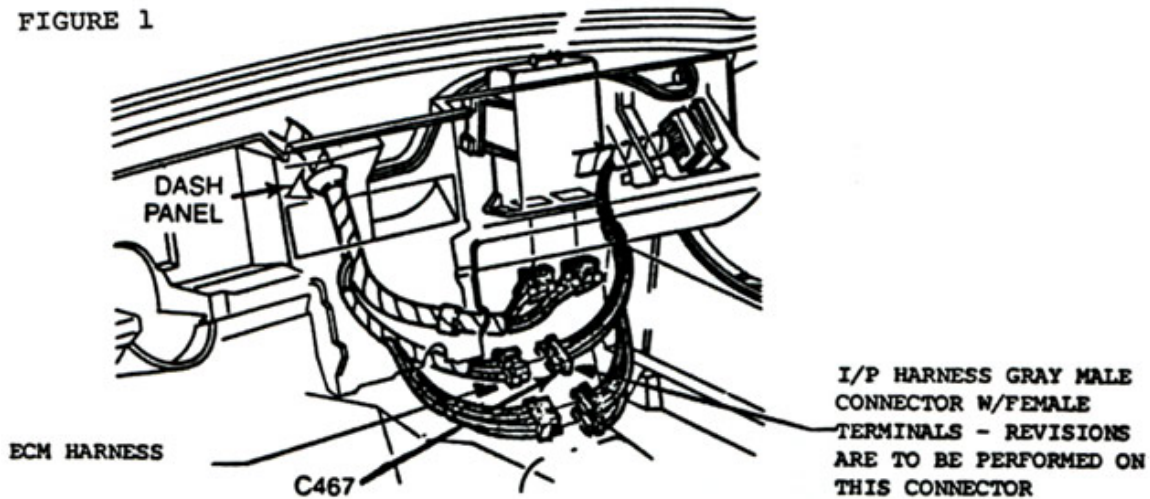
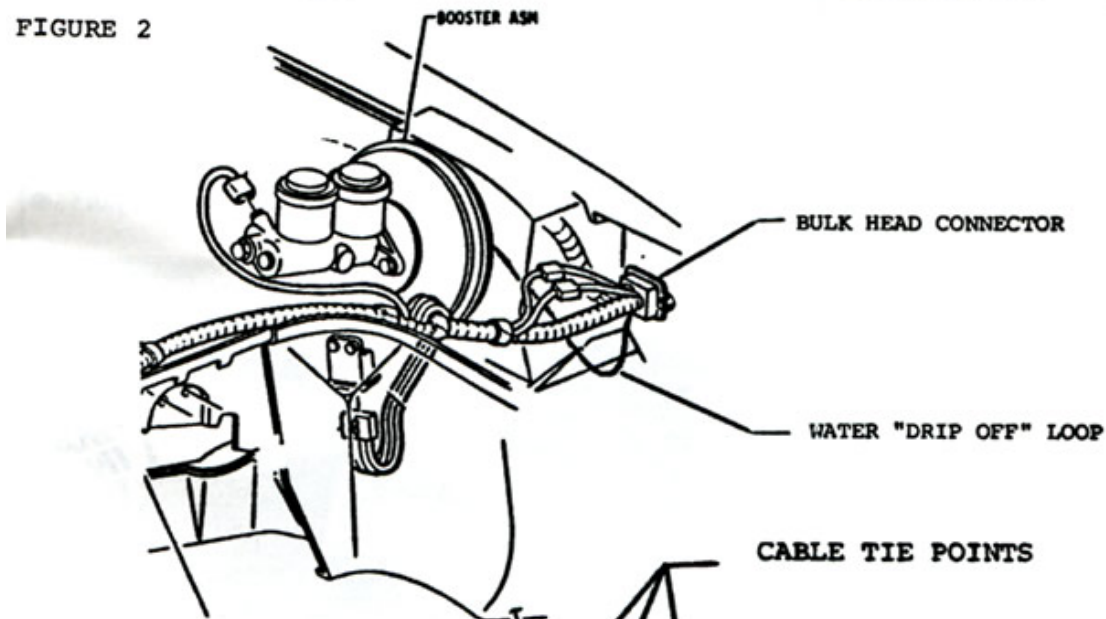

FIGURE 2
FIGURE 3
11. Loop the signal wire down below the bulk head connector and back up behind the brake booster (see Figure 2.)
12. Route the signal wire along the R.H. hood release cable securing the wire to the cable with three (3) cable ties.
13. At the R.H. rear corner of the engine, direct the wire to the front of the engine and install it in the existing engine harness conduit (see Figure 3.)